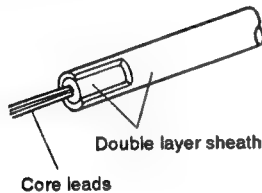

Fig. 5-2 Anode cable structure
- The anode cable structure is outlined in Fig. 5-2. Note that the sheath consists of two layers.